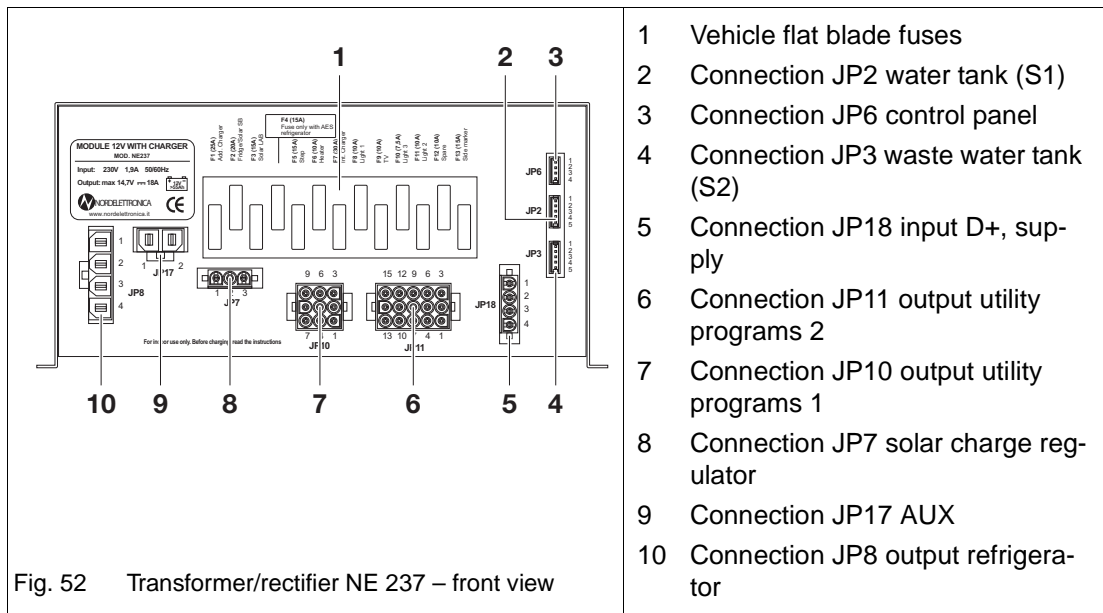

Fig. 52 Transformer/rectifier NE 237 – front view
- The flat blade fuses (Fig. 52/1) protect the different electric circuits.